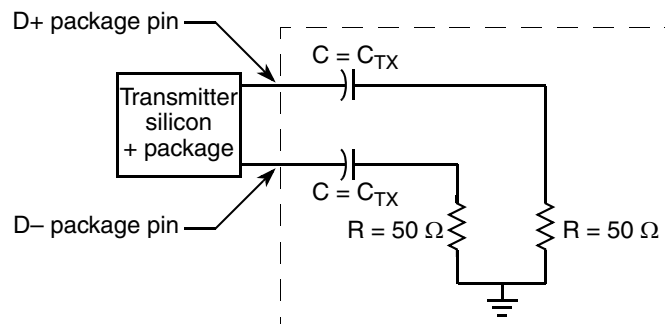

Figure 43. Test/Measurement load
2. Specified at the measurement point into a timing and voltage test load as shown in Figure 43 and measured over any 250 consecutive transmitter UIs.
- Specified at the measurement point into a timing and voltage test load as shown in Figure 43 and measured over any 250 consecutive transmitter UIs.
2. Specified at the measurement point and measured over any 250 consecutive UIs. The test load in Figure 43 should be used as the receiver device when taking measurements. If the clocks to the receiver and transmitter are not derived from the same reference clock, the transmitter UI recovered from 3500 consecutive UI must be used as a reference for the eye diagram.
The AC timing and voltage parameters must be verified at the measurement point. The package pins of the device must be connected to the test/measurement load within 0.2 inches of that load, as shown in Figure 43.